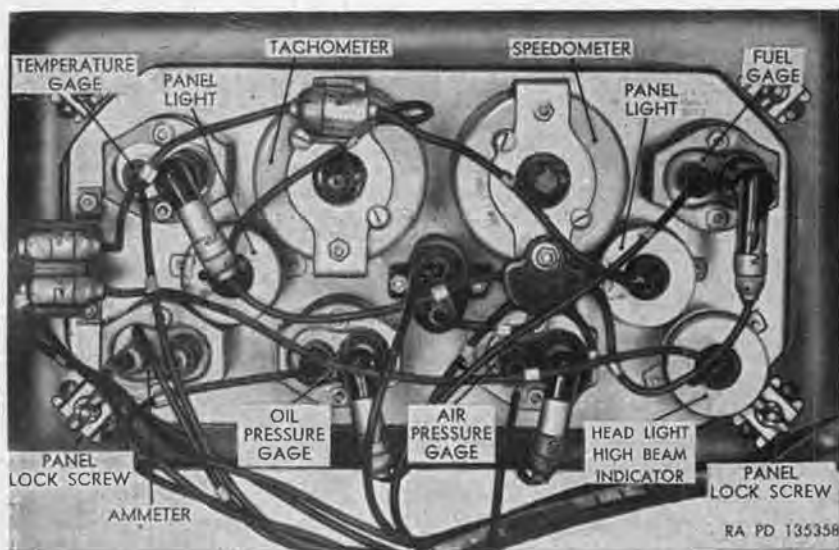

Figure 189. View of back side of instrument cluster.
a. Instrument Cluster. The instrument cluster (fig. 189), which is secured to the instrument panel in the cab by four quick-disconnect panel lock screws, consists of the instrument mounting plate with the instruments, gages, and lights in (1) through (9) below attached.
- (1) Air pressure gage
- (2) Ammeter
- (3) Fuel gage
- (4) Headlight high beam indicator light
- (5) Oil pressure gage
- (6) Panel lights
- (7) Speedometer
- (8) Tachometer
- (9) Temperature gage
b. Gages. The speedometer (fig. 189) and tachometer are mechanically operated units which are connected by flexible shaft assemblies to their sending units (*c* below). All other gages in the instrument cluster are electrically operated and are connected by electrical cables to their sending units (*c* below). Circuits to all gages are fed through the ignition switch (fig. 190), which causes gages to be activated only
e. Panel Lights. The two panel lights (fig. 189) illuminate all the gages in the instrument cluster. These lights are controlled by the light switch (par. 49).
f. Headlight High Beam Indicator Light. The headlight high beam indicator light (fig. 189) is connected in the headlight high beam circuit (circuit No. 17, fig. 188), causing it to light only when the high beam circuit is energized by the dimmer switch (J, fig. 188).
a. Removal (fig. 189).
- (1) *Remove panel lock screws.* Remove the four panel lock screws securing the instrument cluster to the instrument panel, and pull the cluster away from the panel.
- (2) *Disconnect gage and light cables.* Disconnect bayonet-type connectors securing gage-to-circuit-breaker cable to gages and lights at back of instrument cluster.
- (3) *Disconnect speedometer and tachometer flexible shafts.* Unscrew nut securing speedometer flexible shaft to speed-
b. Installation (fig. 189).
- (1) *Connect tachometer and speedometer flexible shafts.* Position instrument cluster at opening in instrument panel, insert end of tachometer flexible shaft in tachometer, and tighten connector nut. Insert end of speedometer flexible shaft in speedometer, and tighten connector nut.
(fig. 189)
- (1) Remove four panel lock screws securing instrument cluster to instrument panel, and pull cluster away from panel.
- (2) Disconnect bayonet-type connector at clip on left (viewing back side of cluster) side of instrument mounting plate.
- (3) Remove two screws and lockwashers from front side of instrument cluster, and remove indicator light from back side of cluster.
- (1) Position headlight high beam indicator light on back side of instrument cluster, and install two screws and lockwashers at front side of cluster.
- (2) Connect bayonet-type connector on light cable to connector at clip on left (viewing back side of cluster) side of instrument mounting plate.
- (3) Position instrument cluster on front of instrument panel, and install four panel lock screws, one at each corner of instrument mounting plate.